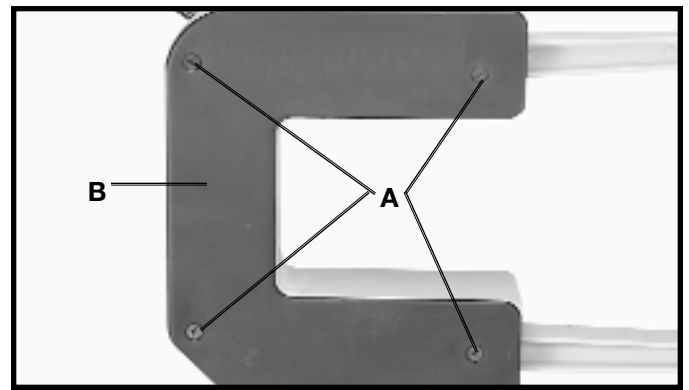

Fig. 39
2. Remove four screws (A) Fig. 39, and remove side panel (B) from the scroll saw.